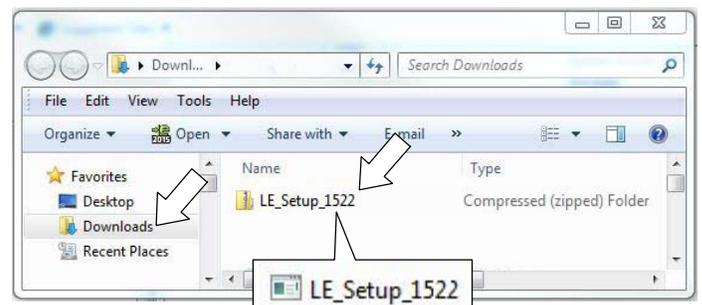

Fig. 22
6. Open the “Downloads” folder and locate the “LE_Setup_xxxx” zip file. Open the zip file and double click on the “LE_Setup_xxx” file to install the application software on your computer (Figure 22). Follow instructions on screen to install.